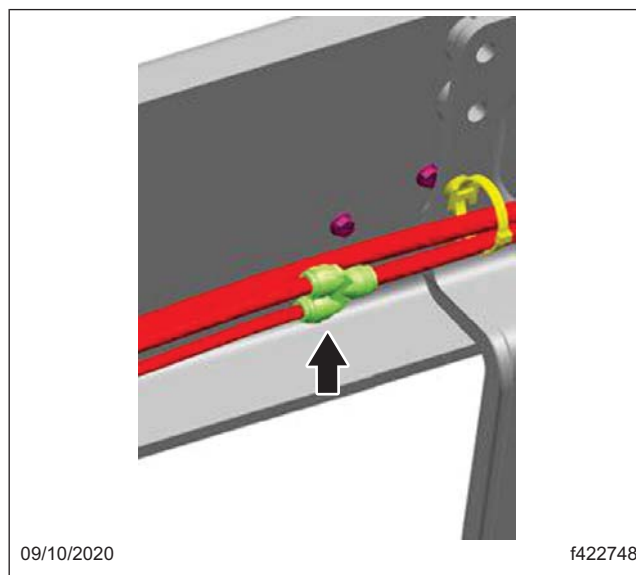

Fig. 12, New Y-Union Installed
15. At the previous location of the Y-union, cut the #6 air hose and install a new Y-union (23-14401-002). Attach the #4 hose to this Y-union, in the same orientation as the previous Y-union. See Fig. 12.